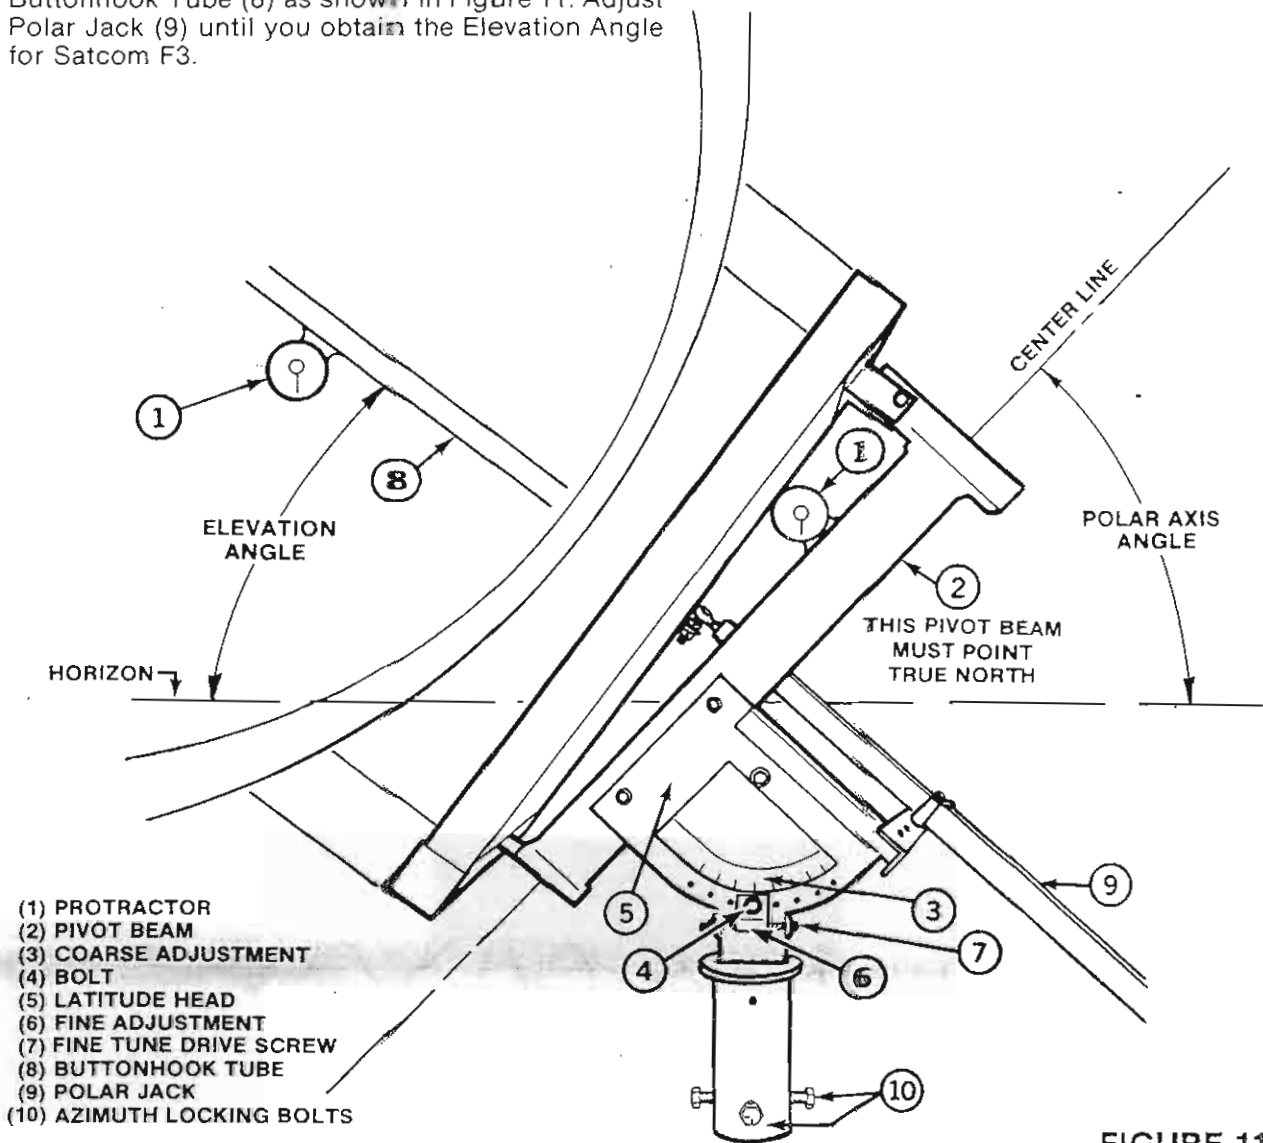

FIGURE 11
**STEP 1.** Place Protractor (1) squarely on Pivot Beam (2) as shown in Figure 11 and set Polar Axis Angle as described below.
**STEP 2.** Make Course Adjustment (3) of Polar Axis Angle. Remove Bolt (4) and tilt Pivot Beam (2) to hole in Latitude Head (5) that will put Fine Adjustment (6) in range of Polar Axis Angle. (Fine Adjustment will provide plus or minus 7° of angle.) Do not fully tighten Bolt (4).
**STEP 3.** Set exact Polar Axis Angle of antenna site on Protractor (1). Turn Fine Tune Drive Screw (7) to set angle and tighten Bolt (4).
**STEP 4.** Move Protractor (1) to straight portion of Buttonhook Tube (8) as shown in Figure 11. Adjust Polar Jack (9) until you obtain the Elevation Angle for Satcom F3.
**STEP 5.** Loosen azimuth locking bolt (10) Figure 11 enough to allow antenna to rotate. Rotate antenna and mount slowly so Pivot Beam passes thru a line with true North. Receiver should be in SCAN mode. When picture flashes on TV screen, remove receiver from scan mode and rotate antenna for best picture. Tighten azimuth locking bolts.